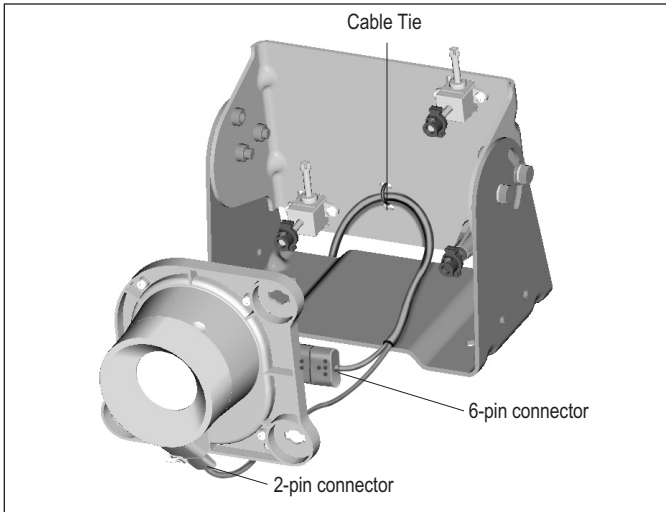

FIGURE 24 - CONNECTING THE CAMERA HARNESSES
3. Disconnect the 6-pin IR camera connector and the 2-pin window heater connector of the IR camera harness from the IR camera. Cut the cable tie to allow access. Refer to Figure 24.
10. Plug the 2-pin connector of the IR camera harness into the window heater. Refer to Figure 24 on page 12.
11. Plug the 6-pin connector of the IR camera harness into the IR camera connection. Refer to Figure 24 on page 12.
9. Plug the 2-pin connector of the IR camera harness into the window heater. Refer to Figure 24.
10. Plug the 6-pin connector of the IR camera harness into the IR camera connection. Refer to Figure 24.